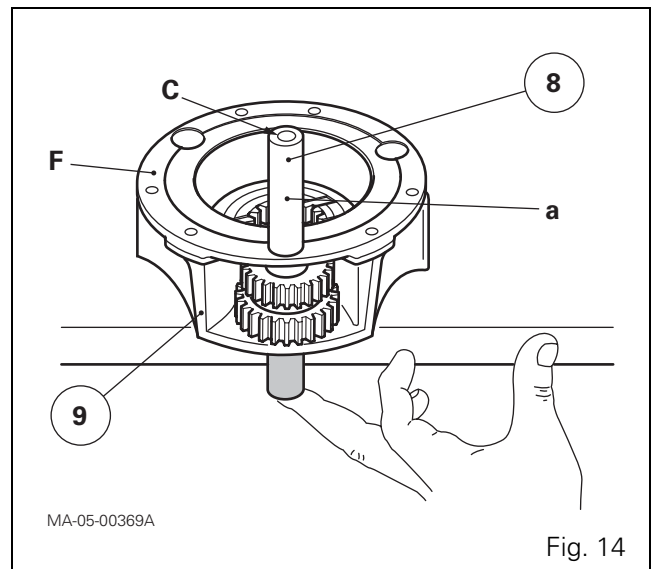
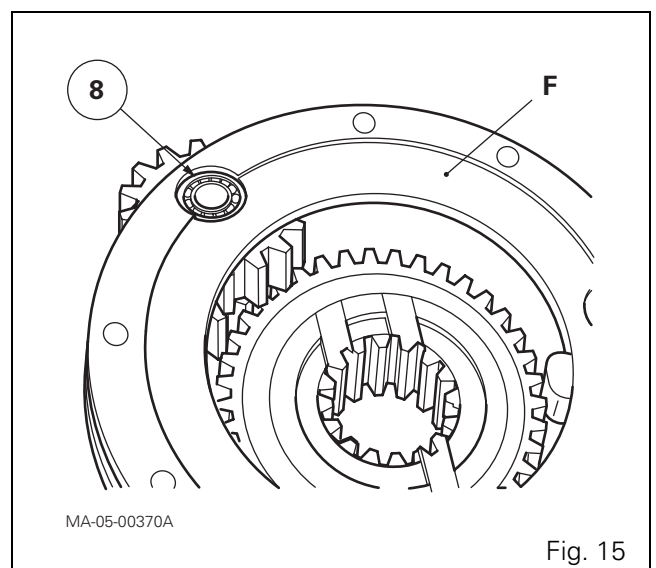

Fig. 14
Fig. 15
35. Position the washers (17).
36. Centre the planet gear and washers with a guide pin Ø 16 mm, L = 80 mm (Fig. 14).
37. Insert the pin (8) into the free bore on face "F" of the unit (9) (Fig. 14) Fit it partially set back (Fig. 15), with the radial lubricating hole "a" turned outwards and the end of central channel "C" turned towards face "F" (Fig. 14).
67. Fit the circlip (4).
68. Fit the gear (3).
69. Fit the circlip (2) (Fig. 14).
70. Check the movement of the sliding gear (10) through the opening of the cover plate (12).
71. Replace or clean the plug (1) and its mating face on the housing.